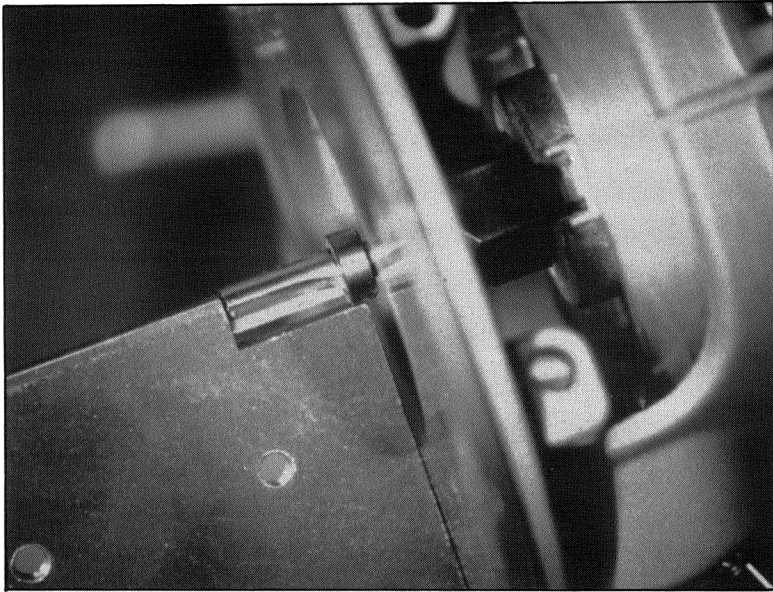

Fig. 3
4. A special piloted router bit is supplied with the mortise and tenon template. Following the directions in the owner's manual for your router: install the bit to the router and adjust depth of cut to match notch on template (see Fig. 3).